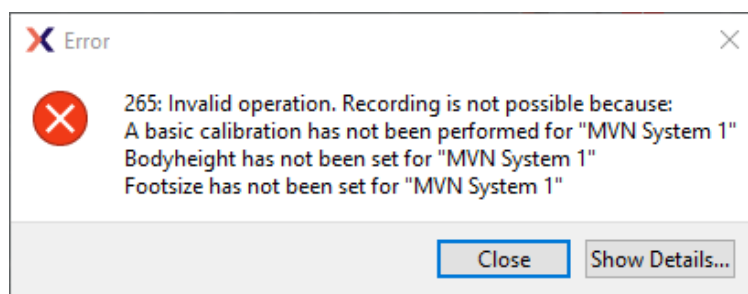

Figure 43: Error if recording attempted without subject height and foot length.
**Note: A recording cannot be performed if the user does not insert these values; then the following error will be shown5 (Figure 43).**